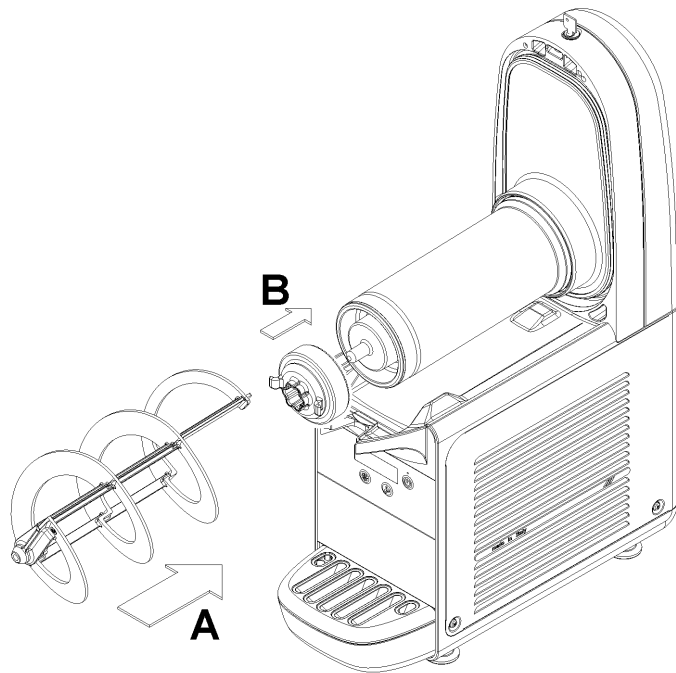

**figure 18**
N.B. the rim with the greater diameter must be rested on the rear wall (see figure 18).